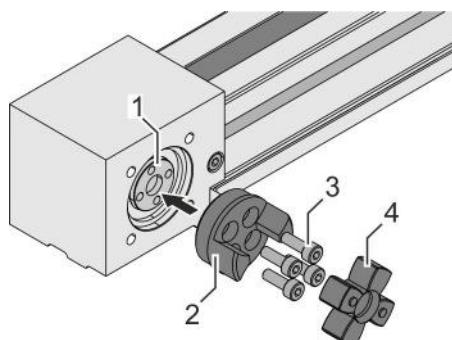

Fig. 22: Assembling screw-in hubs
1. ➔ Place the screw-in hubs (Fig. 22/2) on the timing belt shafts (Fig. 22/1) of both linear units.
2. ➔ Tighten 4 screws each (Fig. 22/3), alternating diagonally:
3. ➔ Insert gear rings (Fig. 22/4) into the screw-in hubs.